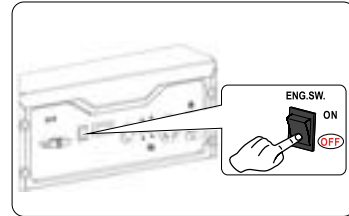

Fig 16
1. Turn the engine ON/OFF switch to the "OFF" position. (See fig 16)